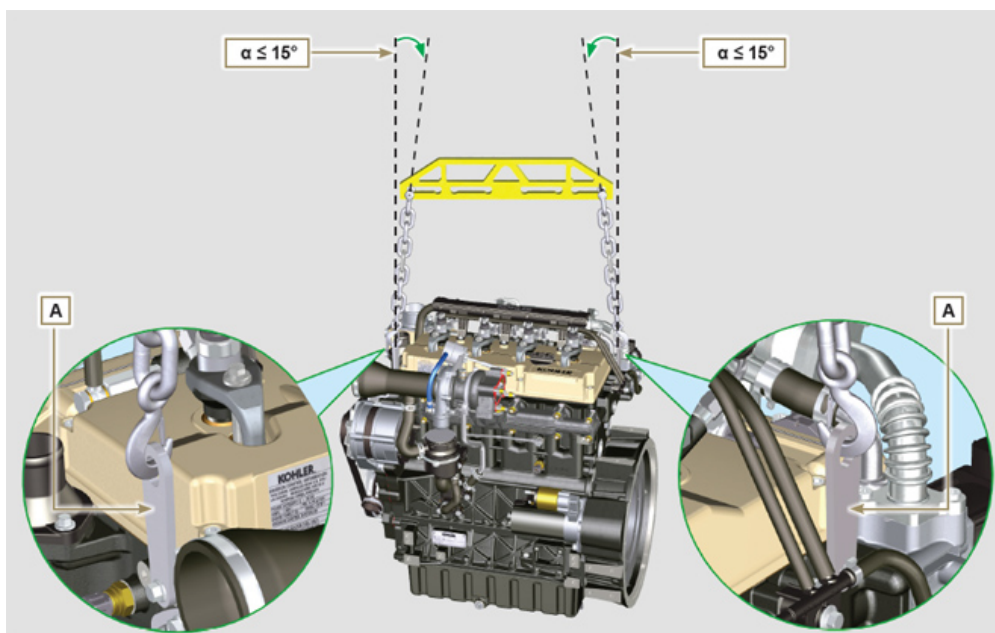

Fig 3.1
- Only use the eyebolts **A** installed by **KOHLER** to move the engine (**Fig. 3.1**).